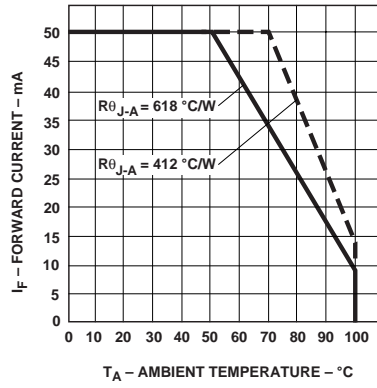

Figure 4. Maximum forward current vs. ambient temperature. Derating based on  $T_{JMax} = 110$  °C.
1. Derate linearly as shown in Figure 4.